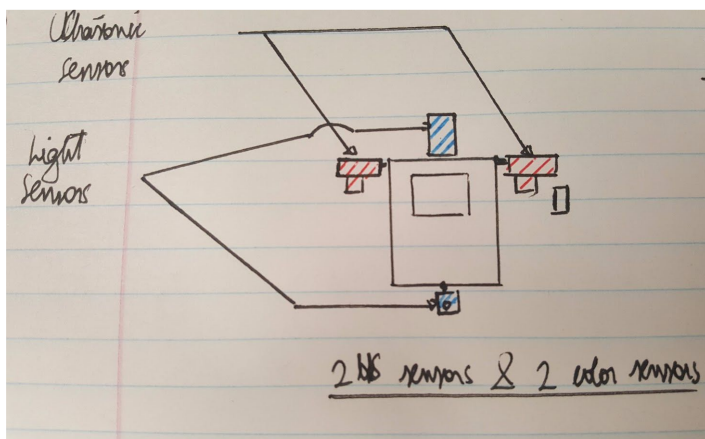

Figure 4 : 2 US Sensor & 2 Color sensors
- Assuming that the amount of sensors remains unchanged, two ultrasonic sensors and two color sensors could be used. Two US sensors could be placed in parallel at the front of the robot which would be used to improve the accuracy of the data from the US sensors and would allow to better filter out outliers. Meanwhile, the extra US sensor will make it possible to detect the obstacles from the other side. One of the color sensors would be placed on the back of the robot facing downward. It would be used to finish the accurate localization and the odometer correction. While the other color sensor would still be set in front of the robot and facing forward, with the same role as the current prototype. See **Figure 4**.